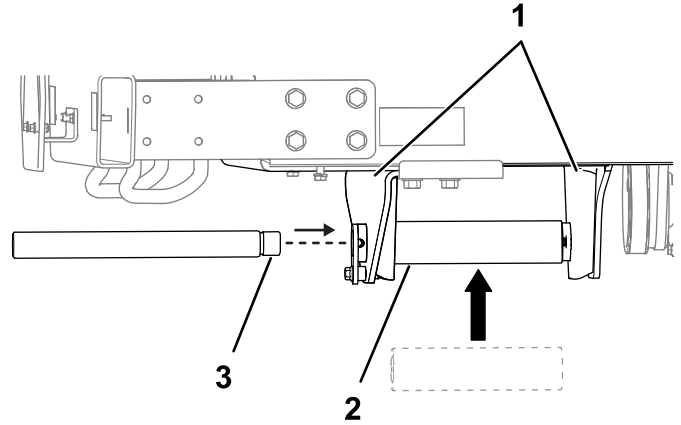

Figure 13
2. Insert the spacer axle between the axle supports to ensure that they are the correct distance apart (Figure 13). Adjust the position of the replacement axle support accordingly.
3. Insert the pivot shaft through the spacer axle (Figure 13). If the pivot shaft does not rotate freely adjust the position of the replacement axle support. Sand the edges of the frame as required.